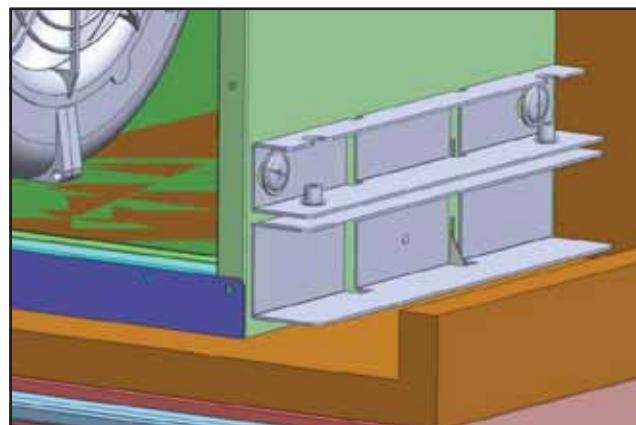

Fig.6
- 5) **24" Models Only.** Place lower installation brackets under upper installation brackets located on left and right sides of hood body, Fig.6. Note: The wider portion of the lower installation bracket should be at the bottom.